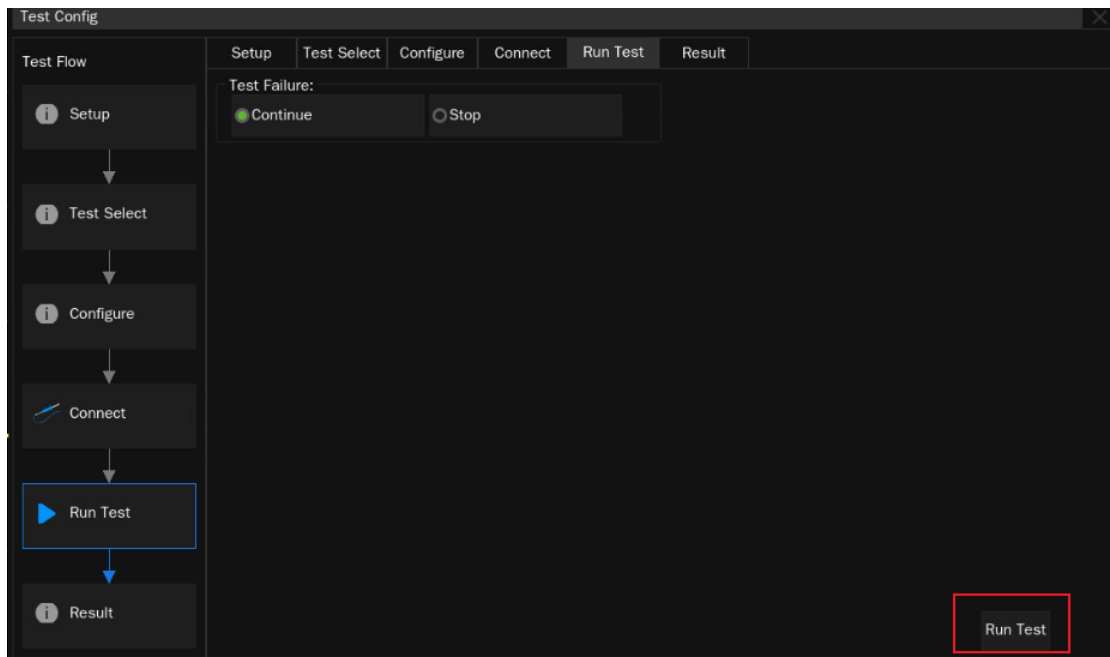

Figure 4-6 Run test window
- **Run Test:** The Run Test window is shown in Figure 4-6. Both " **Continue** " and " **Stop** " options are supported when meets test failures.